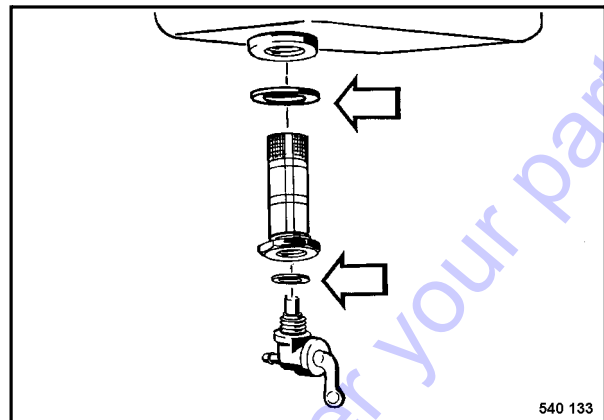

Fig. 3
- Screw the strainer and the fuel shut-off valve in with a new seal each (Fig. 3).